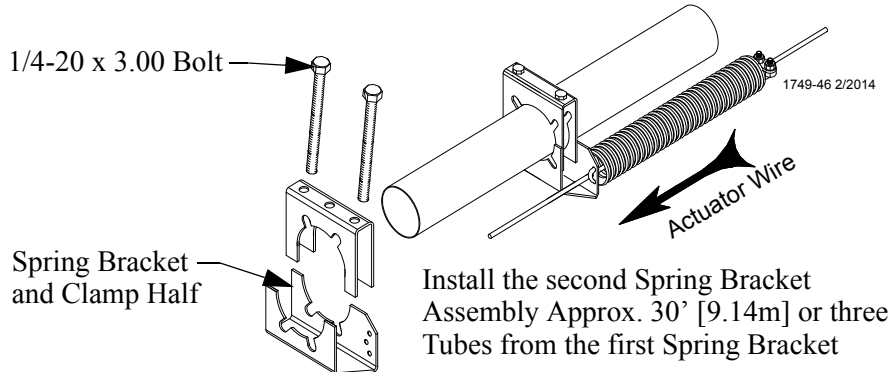
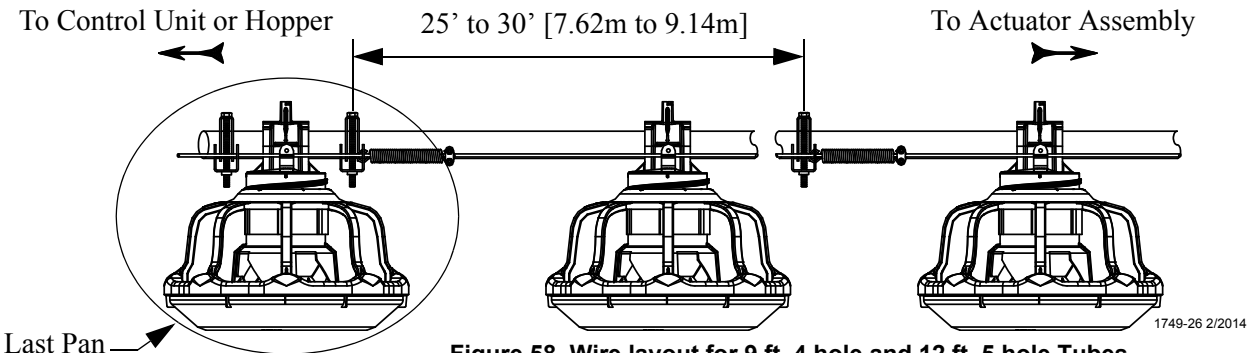

Figure 56. Terminal Spring Bracket
Figure 58. Wire layout for 9 ft. 4 hole and 12 ft. 5 hole Tubes
1. Install the terminal Spring and Bracket (using (2) 1/4-20 x 3 inch hex bolts) at the control unit, see figure 56 and 59. If necessary the last pan may need to be setup to push the vari-brood opening, See Figure 58.
3. Brackets will be installed using (2) 1/4-20 x 3 inch hex bolts.